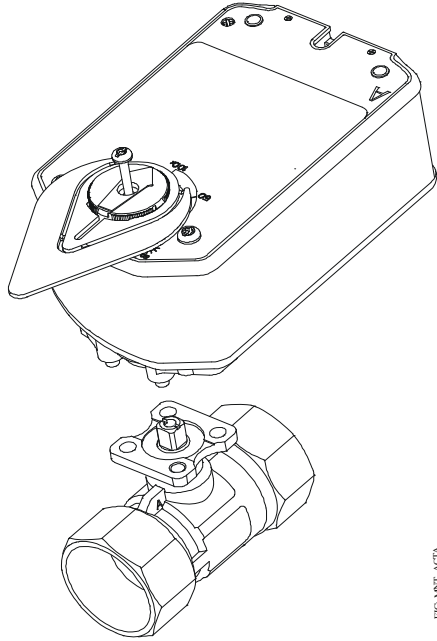

Figure 22: Mount the Actuator
6. Install the actuator on the ball valve (Figure 22). Tighten the actuator mounting screw to a torque of 10 to 12 lb-in. (1.1 to 1.4 N·m) and snap the large adjustable pointer into place.